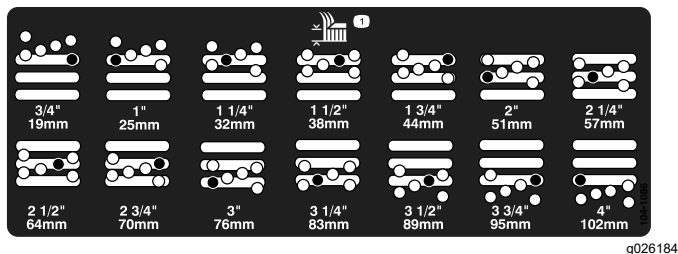

Figure 18
5. Move the chamber to the desired height of cut and install a spacer into the designated height-of-cut hole and slot (Figure 18).